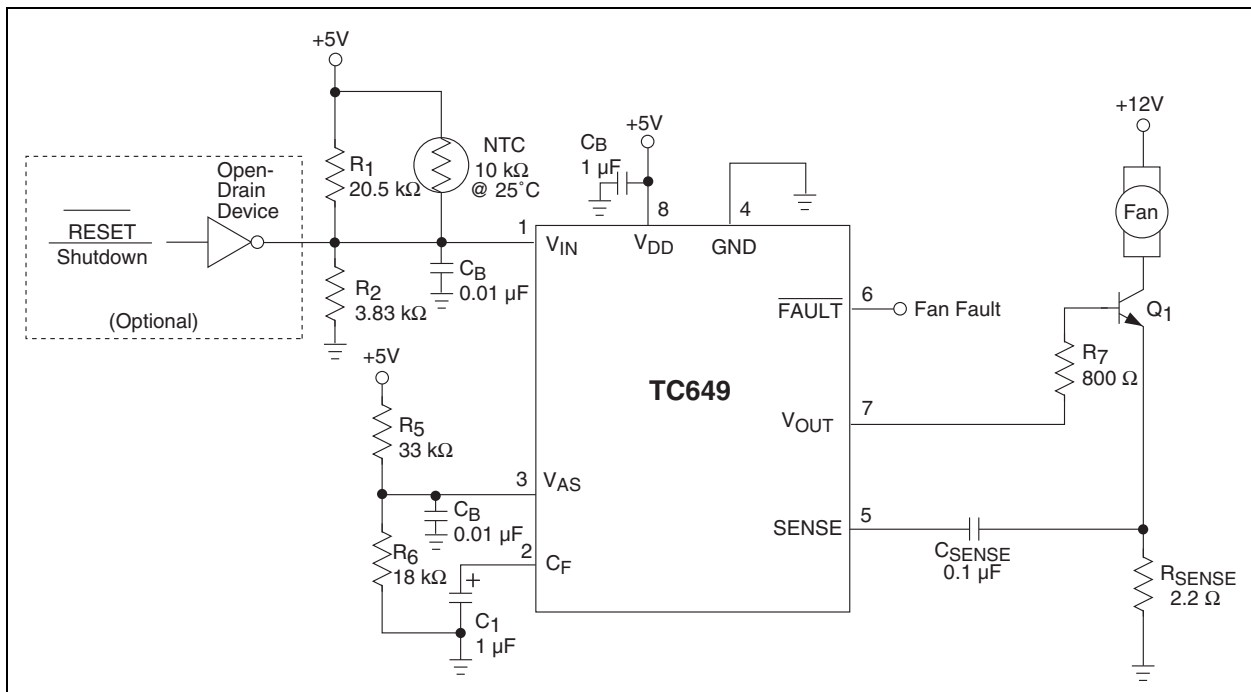

FIGURE 5-9: Design Example.
Step 1. Calculate R_1 and R_2 based on using an NTC having a resistance of $10 \text{ k}\Omega$ at T_{MIN} (25°C) and $4.65 \text{ k}\Omega$ at T_{MAX} (45°C) (see Figure 5-9).